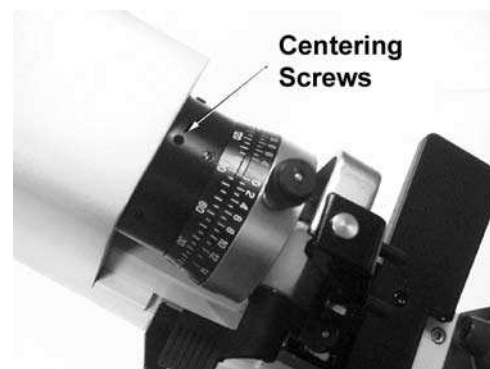

Fig. 16
3. Adjust the 3 screws (Figure 16) to bring the center of the target into the center of the eyepiece scale. It is necessary to loosen a screw before tightening a screw in order to move the target image. All 3 screws should be tight when centering is complete.